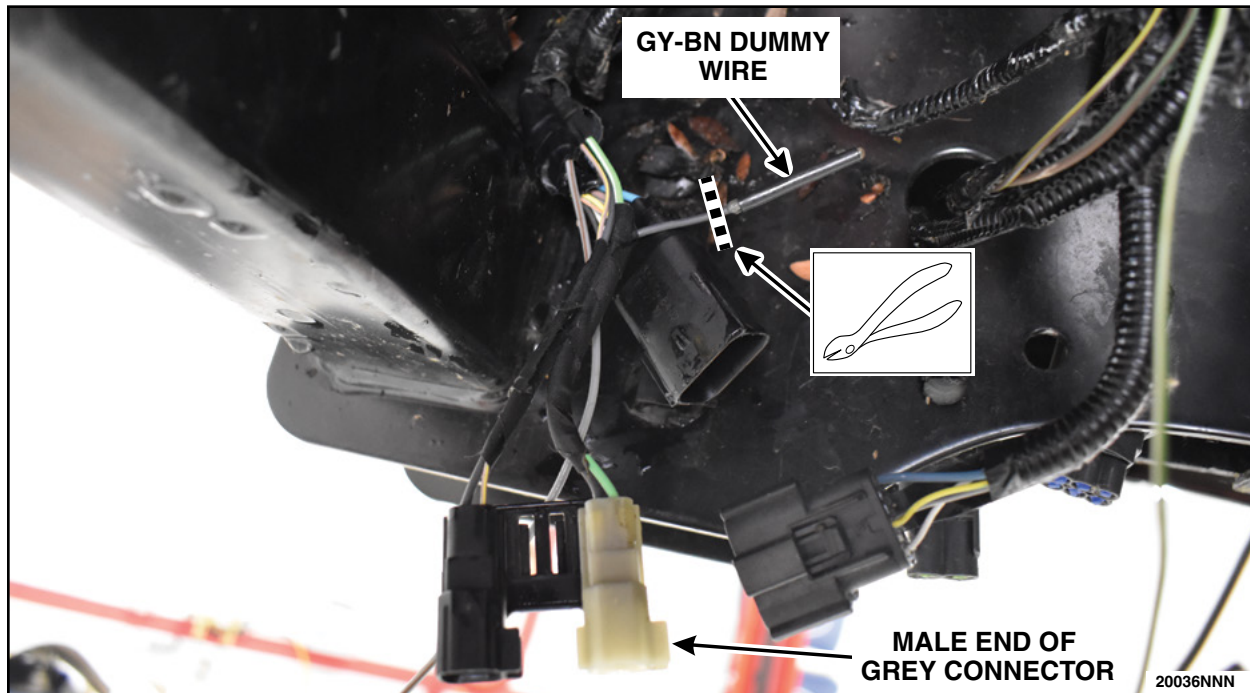

FIGURE 71
95. Remove the tape and convolute on the male end of the Grey connector to expose the GY-BN dummy wire. Cut the GY-BN wire just in front of the heat shrink tubing and discard the heat shrink tubing. See Figure 71.